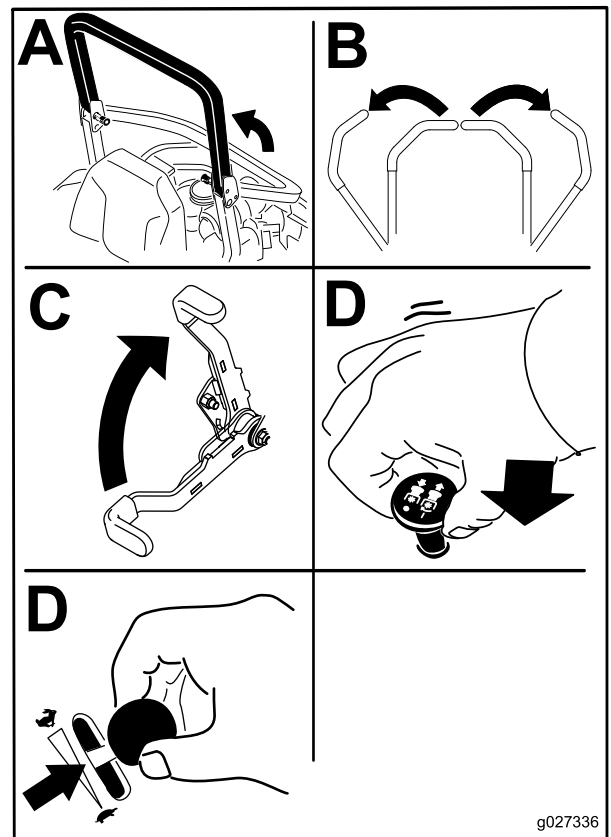

Figure 18
4. Move the blade-control switch (PTO) to the OFF position (Figure 18).